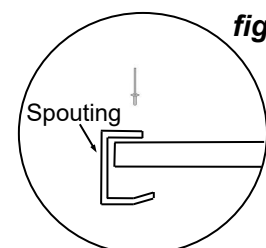

fig.4
- Place Spouting in position and rivet to Barge Flashings at each end and rivet to roof sheets (1 rivet per 1 sheet) (fig.4).